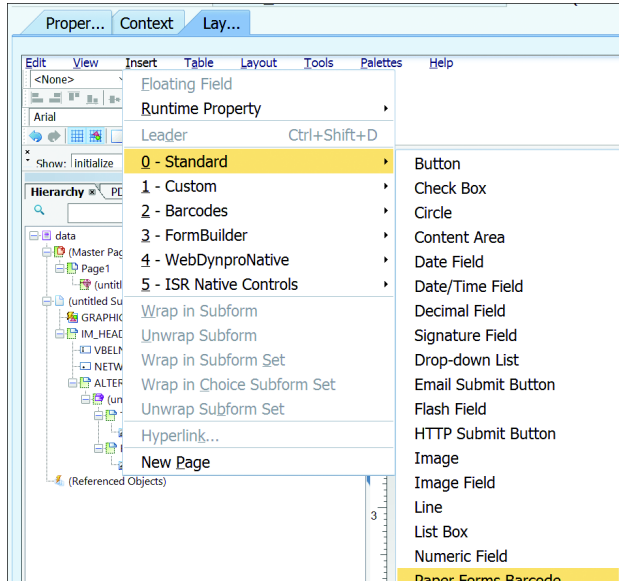

Figure 18.92 Inserting Fields from Menu
- When adding fields of a structure or table, you can directly drag the structure from the data view instead of manually adding individual fields. You can also insert the fields using the INSERT menu, as shown in Figure 18.92.